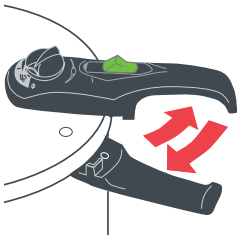

Fig.5
Lid (1). Made from top quality thick calibre stainless steel. The lid must be correctly fastening and the chosen pressure operating correctly for the cooker to reach sufficient pressure. To place the lid easily, align the ● mark on the left hand side of the handle at the top of the lid with the ● on the top of the stove handle. (Fig. 5).